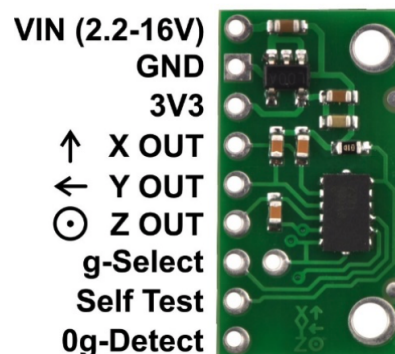

Figure 2: The MMA7361LC 3-axis accelerometer with voltage regulator.
- For this experiment, a 3-axis accelerometer has been fixed to the end of the pendulum apparatus (see Figure 2). The accelerometer has been configured for $\pm 6g$ operation. The y-axis of the pendulum points towards the pendulum rotation axis (see Figure 3). For more information about the accelerometer, see Pololu.